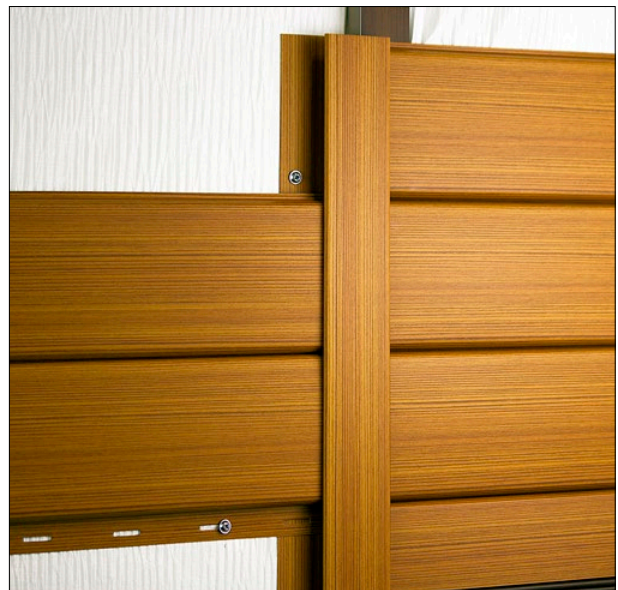

Fig.45
Step 4: Set the standard panels in place and fasten (Fig.45).